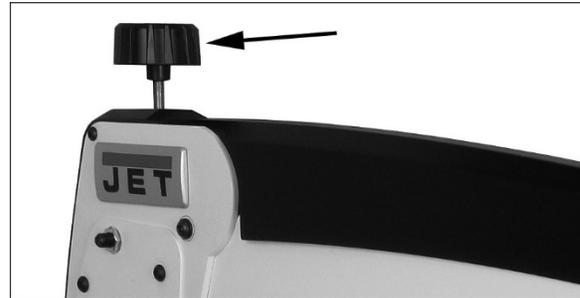

Figure 9-6: arm adjustment knob
- Rotate arm adjustment knob (Figure 9-6) clockwise by hand. This will raise arm and apply more tension to blade.